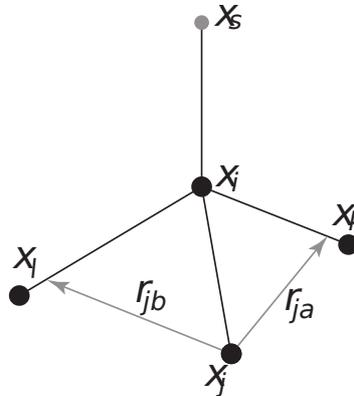

Fig. 5.34: The new 4fdn virtual site construction, which is stable even when all constructing atoms are in the same plane.
- From four atoms, with a fixed distance, see separate Fig. 5.34. This construction is a bit complex, in particular since the previous type (4fd) could be unstable which forced us to introduce a more elaborate construction: